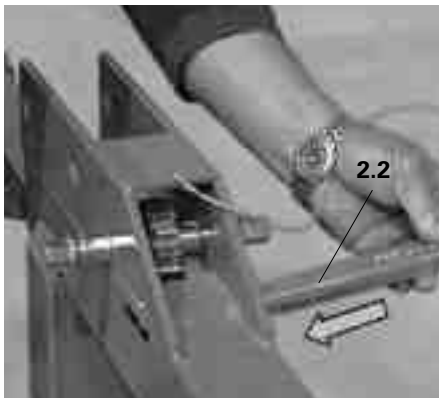

Fig. A1.17
3. Secure with wedge (2.2). (Fig. A1.17)